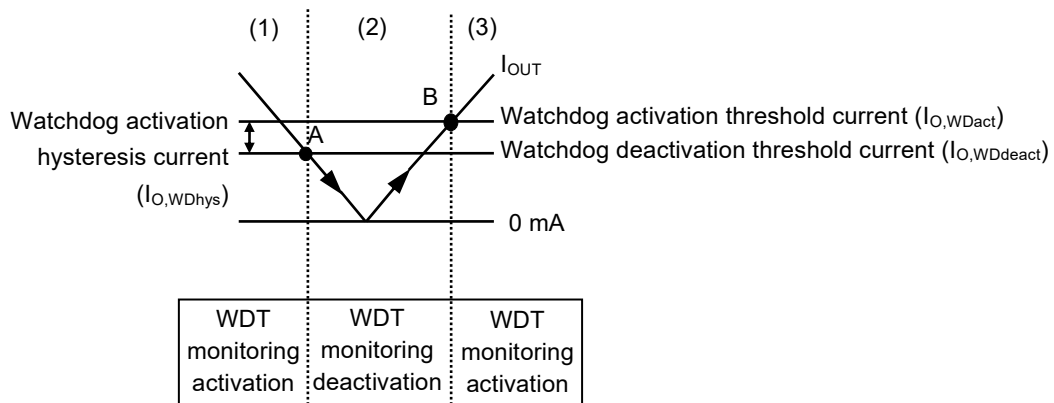

**Figure 49 Operation of Output current Detection Circuit**
**Figure 49** shows a block diagram which includes an output current detection circuit. It shows the connection of each pin when using the autonomous watchdog operation function. If the regulator is connected to a microcontroller, the microcontroller operation current can be detected using the regulator output current. For example, if a constant of the watchdog activation threshold current adjustment resistor ( $R_{WADJ,ext}$ ) is selected so that the microcontroller sleep operation current is lower than the watchdog deactivation threshold current ( $I_{O,WDdeact}$ ), when the microcontroller sleeps, the watchdog timer autonomously deactivates monitoring operation. If a device other than a microcontroller is connected to the VOUT pin, take the connected device's current consumption into account when selecting  $R_{WADJ,ext}$ .